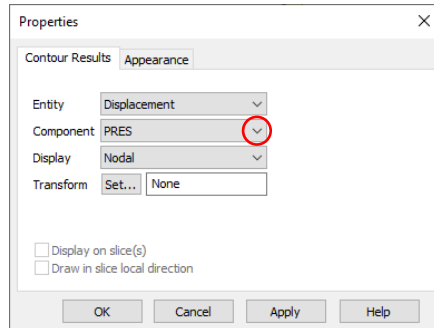

Figure 69: Contour dialog
- Right-click in the model view window and click on **Contours**. Click on the entity **Displacement** and the component **Pres** and then click **OK** (figure 69).